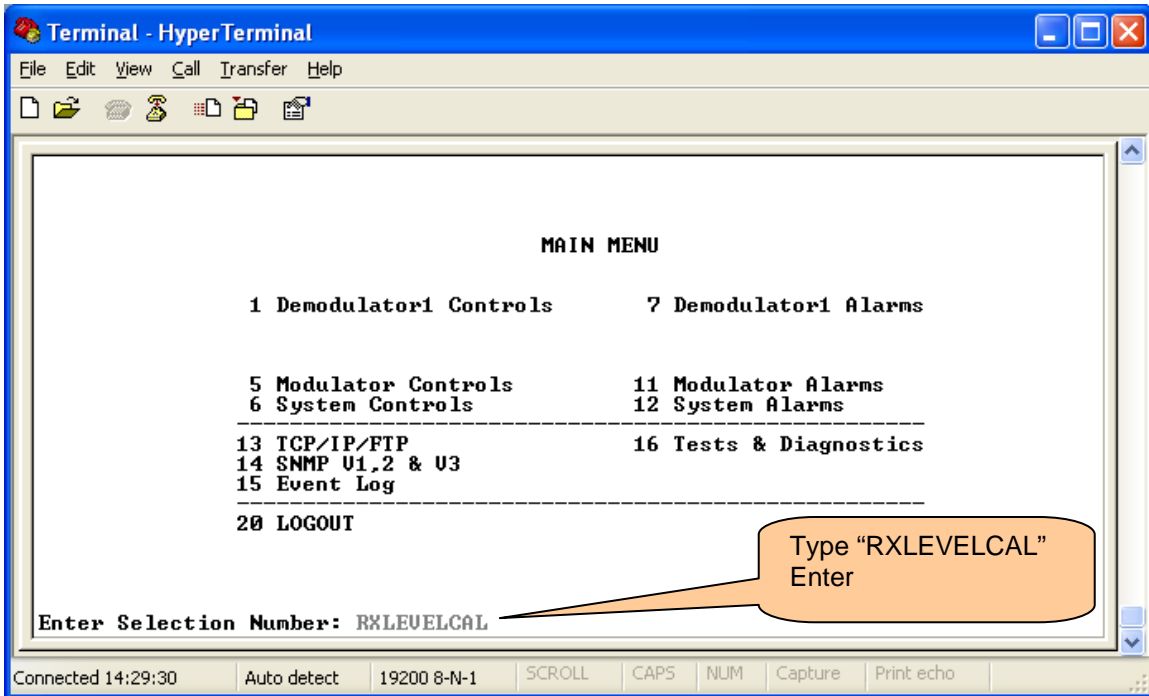
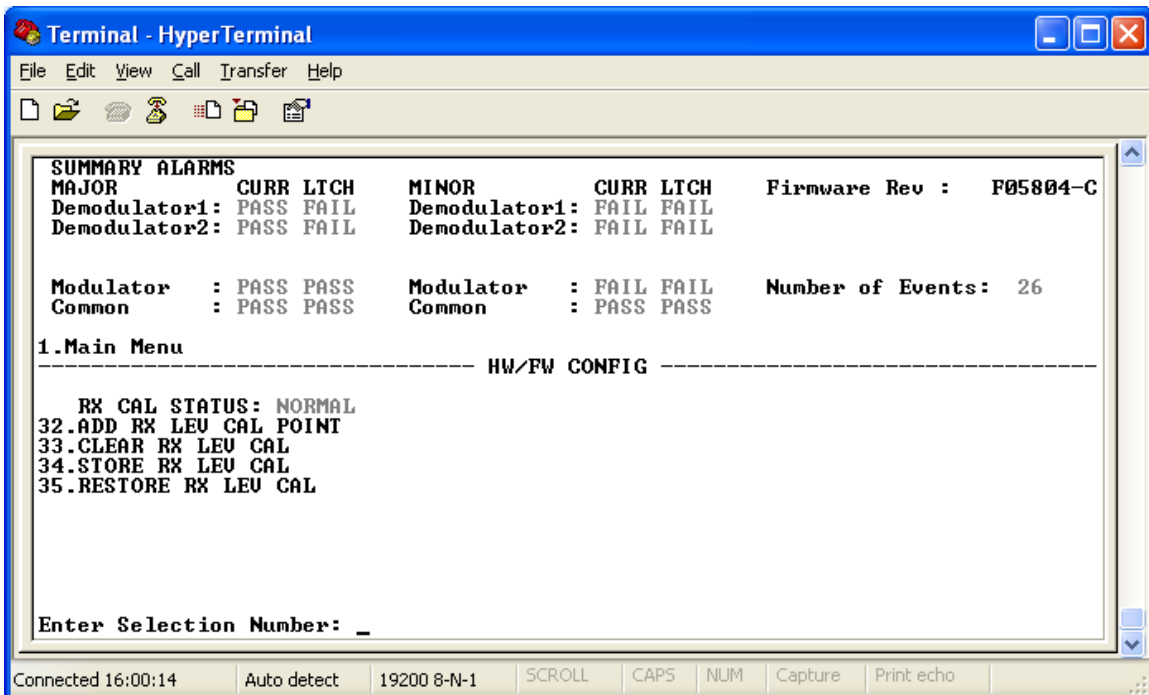

Figure 28 – RXLEVELCAL entry
Figure 29 – RXLEVELCAL screen
1. Enter the "RXLEVELCAL" screen by typing "RXLEVELCAL" <Enter> at the main screen, see Figure 28 and Figure 29.